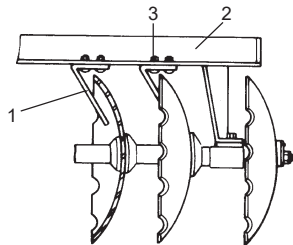

FIGURE 12
22 - Set the scrapers item 1 in the front and rear frames, with bolts item 3, as shown in **Figure 12**.